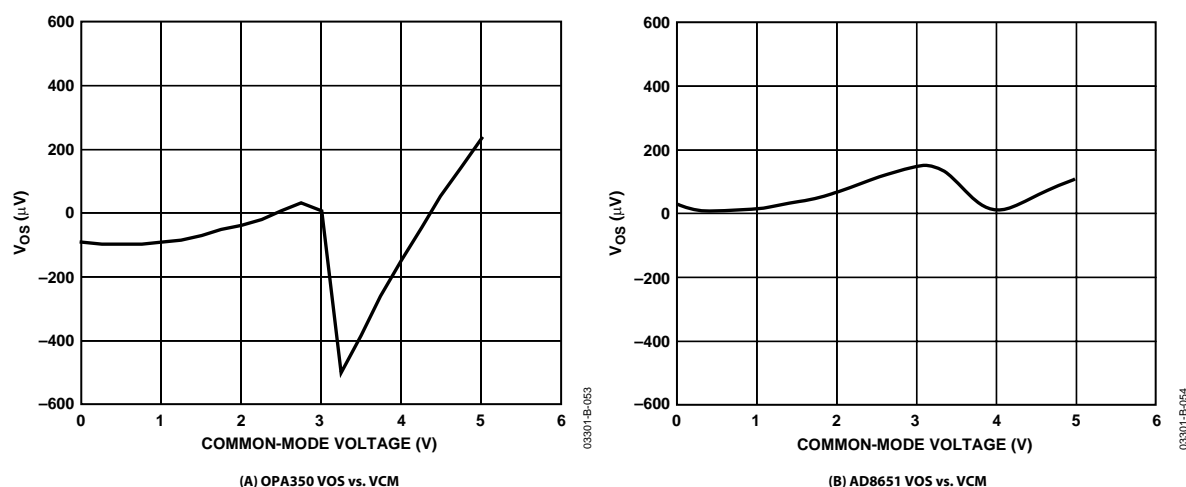

Figure 53. Input Offset Distribution over Common-Mode Voltage
The NMOS and PMOS input stages are separately trimmed using DigiTrim to minimize the offset voltage in both differential pairs. Both NMOS and PMOS input differential pairs are active in a 500 mV transition region when the input common-mode voltage is approximately 1.5 V below the positive supply voltage. A special design technique improves the input offset voltage in the transition region that traditionally exhibits a slight V_{OS} variation. As a result, the common-mode rejection ratio is improved within this transition band. Compared to the Burr Brown OPA350 amplifier, shown in Figure 53 (A), the AD8651, shown in Figure 53 (B), exhibits much lower offset voltage shift across the entire input common-mode range, including the transition region.